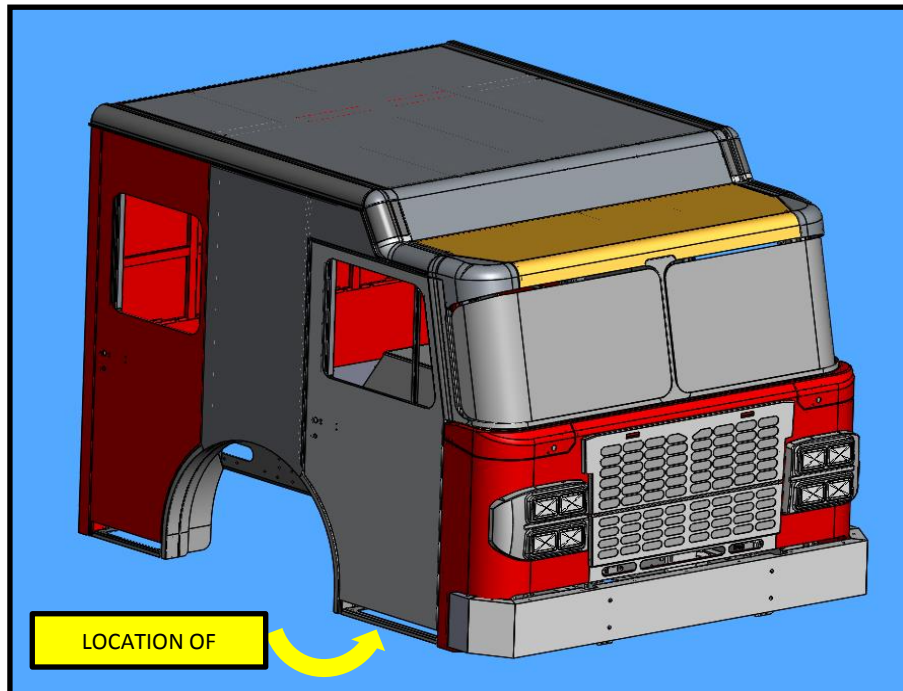

FIG. 12-2
20. Location of the officer side lift cylinder, Refer to FIG. 12-2.